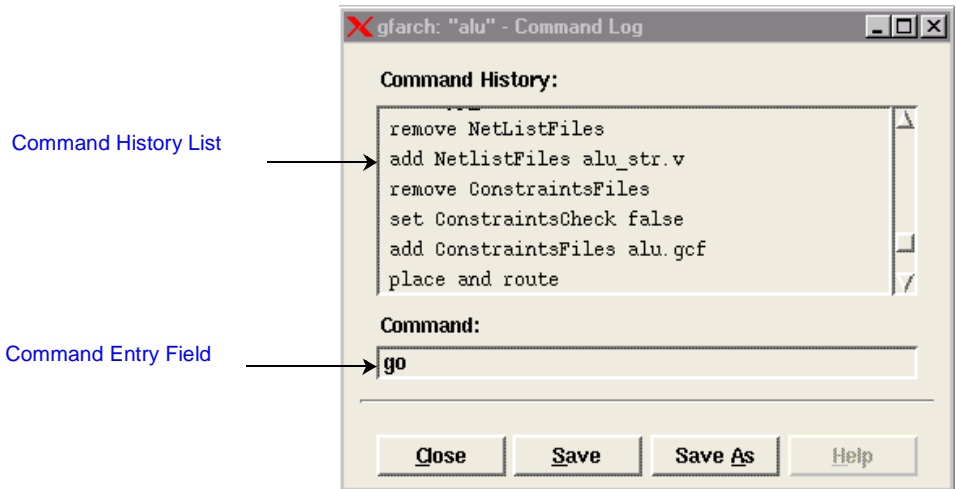

Figure 6-1. Command Log Window
4. **From the Design Executive's View menu, click Command Log.** The Command Log Window appears as shown in Figure 6-1 on page 91.
The command history illustrated in Figure 6-1 shows that a new netlist file named alu.str.v for a new design was specified.